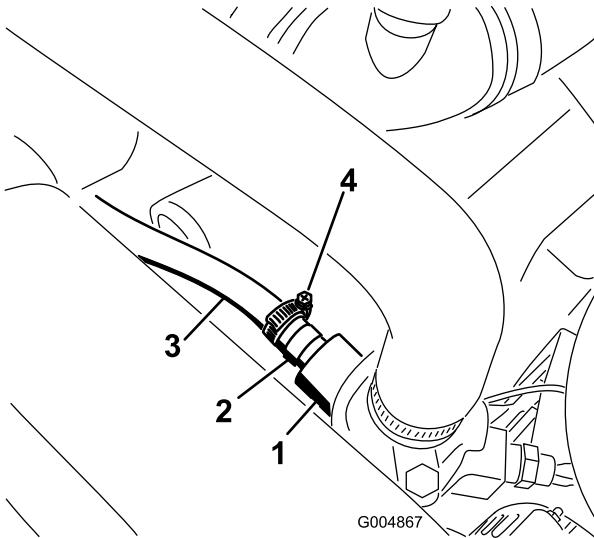

Figure 22
17. Install the hose adapter fitting into the engine thermostat housing (Figure 22).
18. Connect the 22-1/2 inch (57 cm) length of hose to the engine thermostat housing adapter fitting (Figure 22). Secure the hose to the adapter fitting with a hose clamp. Route the hose under the air cleaner as shown in Figure 22. Install a hose clamp onto the hose and connect the hose to the quick coupler Figure 22). This is the pressure hose.
Note: Route the hoses away from any hot, rotating or sharp objects. Secure the two coupler hoses together with a cable tie as shown in Figure 22.